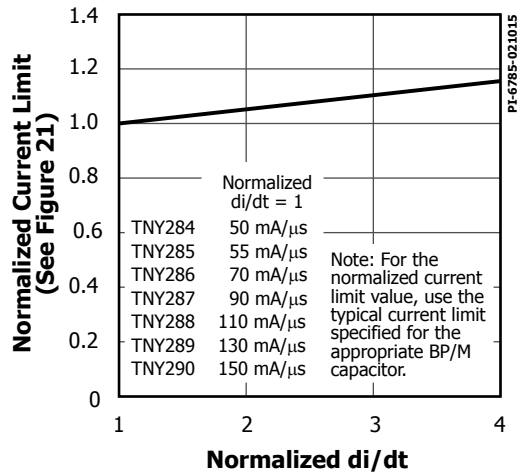

Figure 25. Standard Current Limit vs.  $di/dt$ .
- E. For current limit at other di/dt values, refer to Figure 25.